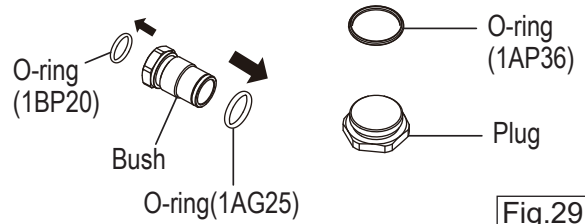

Fig.29
a. Attach the O-rings to the bushes and plug. (Fig.29)